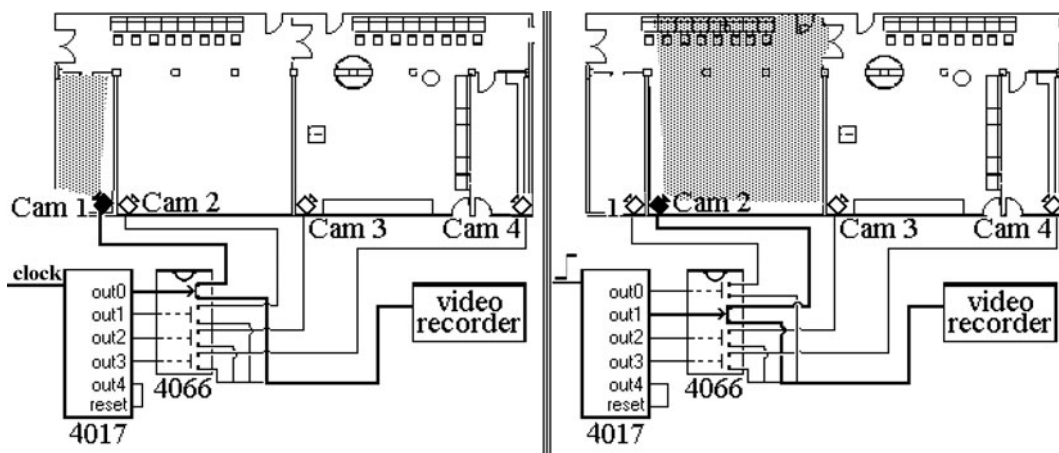

Figure L42-2
So what good are these? That is up to you to decide. Maybe you don’t want to count zero to nine all the time. Maybe you only want it to count to six, like rolling a die. Maybe you have a hexapod robot. It has a preset cycle for its six legs. You can use the 4017 to trigger this system. Figure L42-2 shows a really cheap, simple, yet effective idea for applying the 4017 in a video security surveillance system.
10. In the following system diagram, describe the processor for the video security system shown in Figure L42-2 (see Table L42-1).